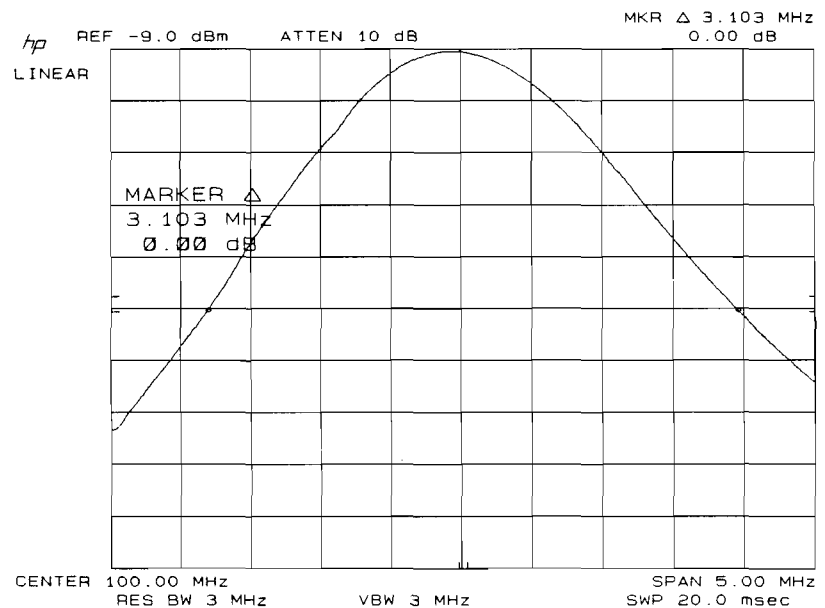

Figure 4-3. 6 dB Resolution Bandwidth Measurement
45. Press MARKER **Δ** and position movable marker 6 dB down from the signal peak on the negative going edge of the trace (the MARKER **Δ** amplitude readout should be 0.00 dB $\pm$ 0.05dB). The 6 dB bandwidth is given by the MARKER **Δ** frequency readout. (See Figure 4-3.) Record in Table 4-2.